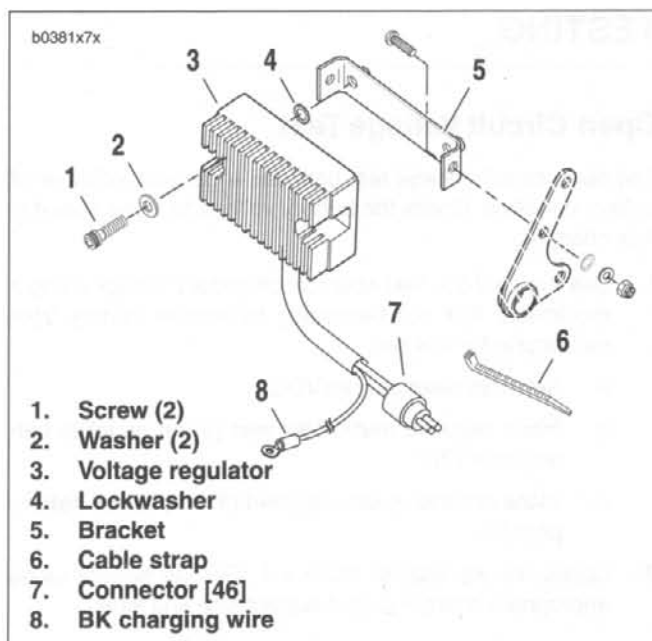

Figure 7-28. Voltage Regulator
1. See Figure 7-28. Attach **new** voltage regulator (3) using screws (1) and washer (2). Place lockwasher (4) on gearcase cover side of mount.
2. Connect voltage regulator connector [46] to alternator stator wiring. Bundle excess wiring in front of oil pump. Secure bundle to oil pump using a **new** cable strap (6).
3. Route charging wire (8) to gold post on main circuit breaker. Secure wire to frame with **new** cable straps.